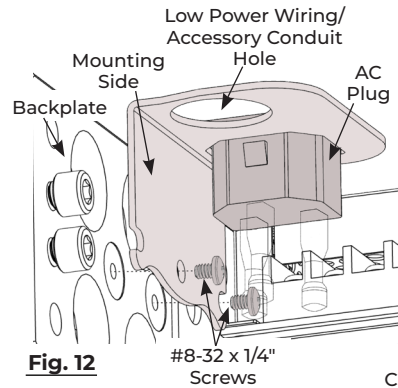

Fig. 12
4. **Optional:** PC Conduit Bracket Assembly OR Surface Conduit Assembly installation. (Fig. 12 - PC Conduit Assembly shown)
- Secure the bracket to the backplate using two (2) #8-32 x 1/4" machine screws.
- Plug the bracket's wiring harness into the pre-wired harness of the power supply. (Fig. 12)